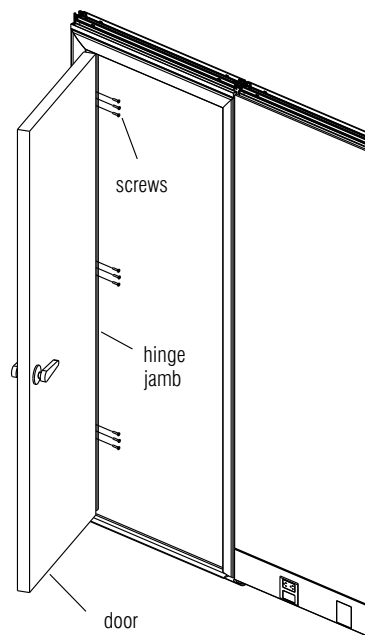

Figure 21
8. If a door is used, install the door with hinges to the hinge jamb with screws provided. Adjust the door by positioning the vertical posts and setting the height of the glides to achieve the required operation. **Figure 21.**